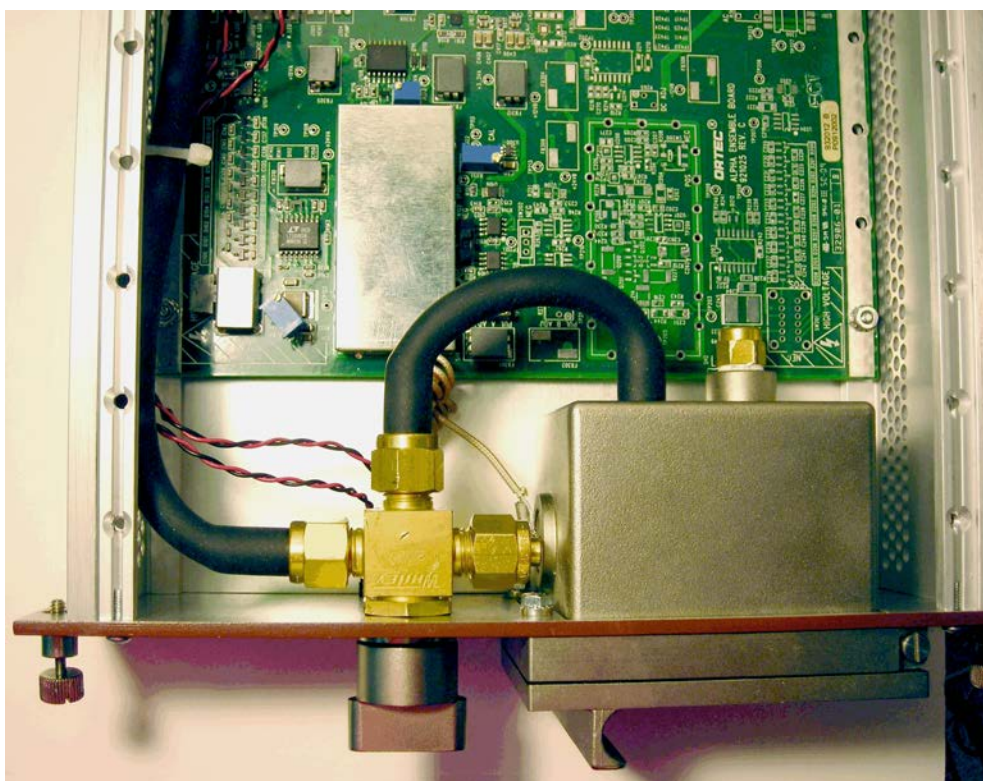

Fig. 13. Inside the Alpha Aria.
- 2) Remove the right side panel (as viewed from the front) with a Phillips-head screwdriver. Figure 13 shows the interior of the Alpha Aria, including the vacuum chamber, 3-way valve, and PWB.